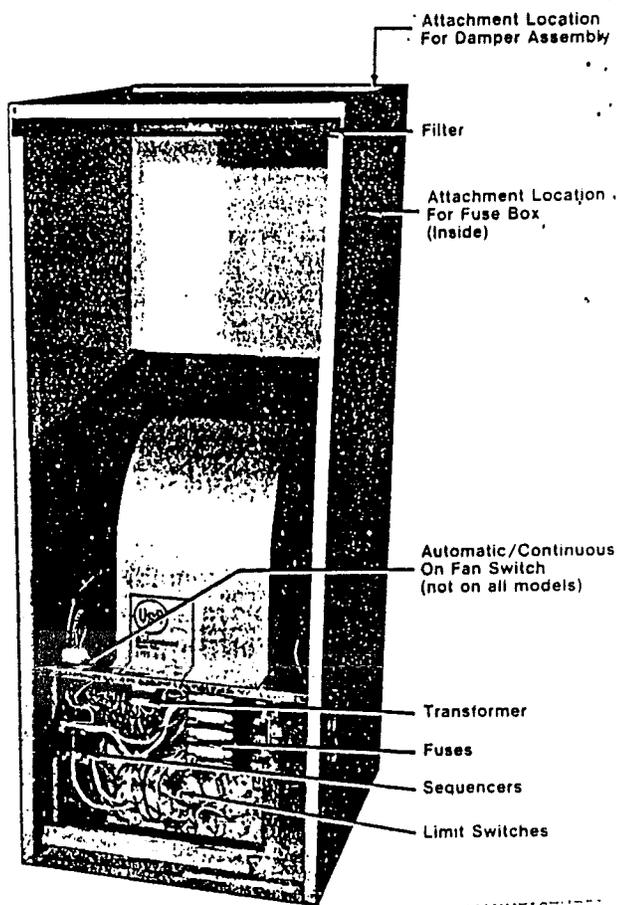

FIGURE 5
4. Locate damper assembly attachment holes at right, back corner of furnace top. See figure 5. The one inch diameter hole in the filter stop is for routing the 1/2 inch flexible conduit through when going from the fuse box to the air induction blower in the attic.
- c. Mark the screw hole in the furnace flange and the two screw holes in the filter stop. See figure 5.